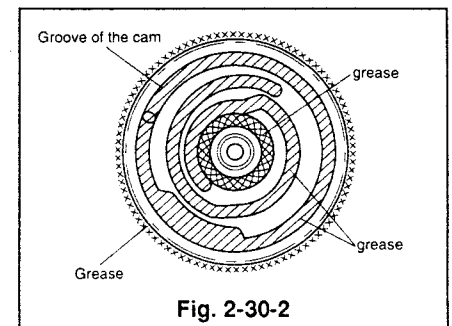
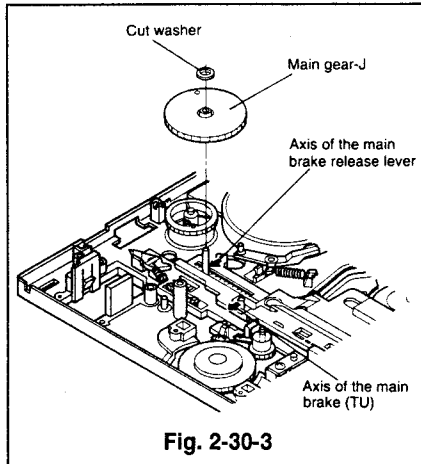
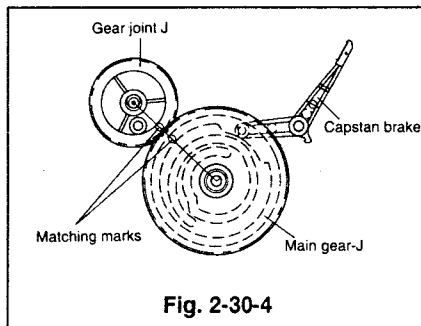

Fig. 2-30-2
Fig. 2-30-3
Fig. 2-30-4
- ① Apply grease (G) [859D055O50] to the outside cogs, the groove of the cam and to the inside small cogs of the new main gear J. (Refer to Fig. 2-30-2.)
- ② Make sure that the cam plate B is set to the right side, viewed from the bottom side of the deck. (Eject mode)
- ③ Push the axis of the main brake release lever in the direction shown by the arrow until the main brake release lever moves freely. Turn the deck the right side up and shift the axis of the main brake release lever in the direction shown by the arrow. Then fix the main gear J to the shaft, with the axis of the main brake release lever held in place. Secure the main plate J with the cut washer. (Refer to Fig. 2-30-3) (Insert the pin of the capstan brake in the outside groove of the main gear J and align the matching marks of gear joint J and the main gear J.) (Refer to Fig. 2-30-4)
- ④ Install the loading motor assembly (which holds the motor holder) and the reel belt. (Refer to Para. 2-28 for the installation method.)
- ② Fix the gear joint J to the shaft so that the matching mark of the gear joint J aligns with that of the main gear as shown in Fig. 2-30-4.